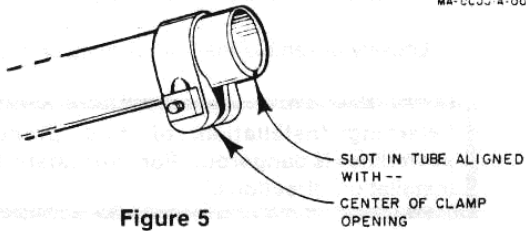

Figure 5
**NOTE:** The slot in the compression clamp should be aligned with the slot in the tubing (see Figure 5).